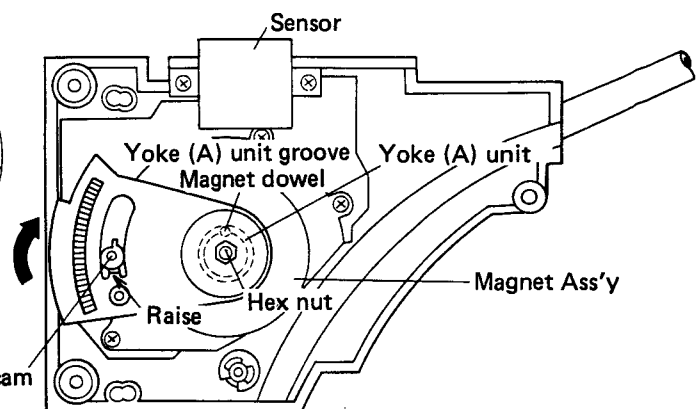

Fig. 1-11 Mounting the magnet ass'y 1
1. Align the dowel on the rear of the magnet ass'y with the yoke (A) unit groove, and tighten the hex nut by applying a torque of 5kg.cm (see Fig. 1-11). The magnet ass'y is secured by turning the hex nut clockwise.